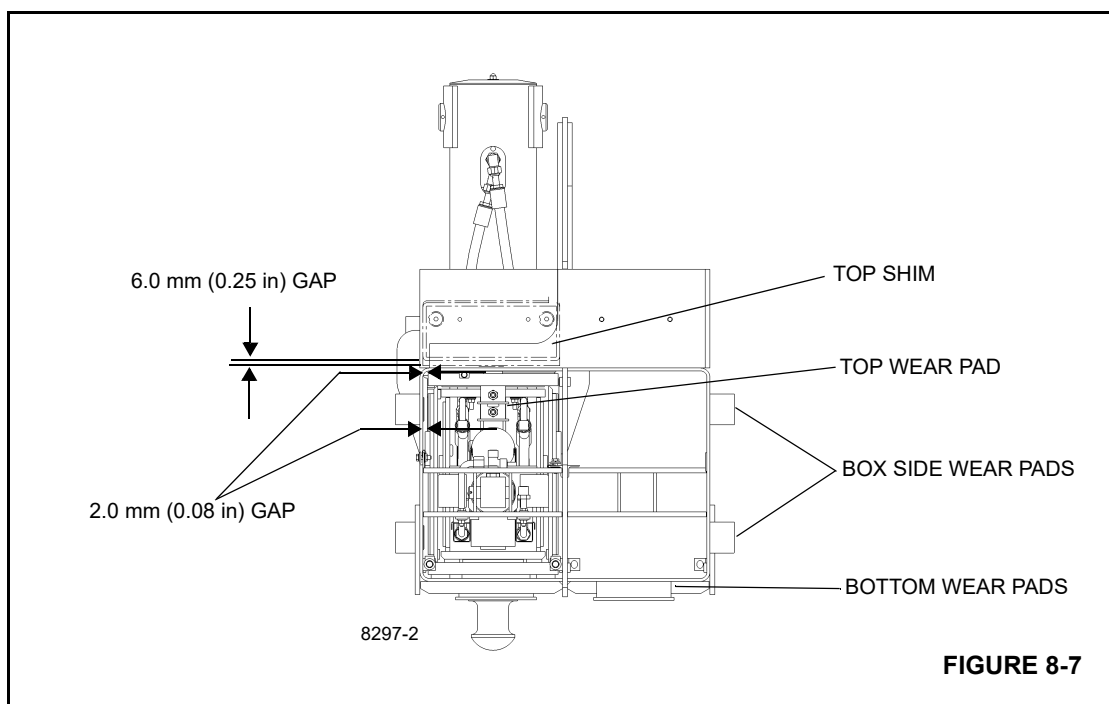

FIGURE 8-7
6. On the side of the outrigger housing, remove the two setscrews from the side adjustable wear pads and back off the wear pads from the housing (Figure 8-7).
NOTE: When adjusting wear pads, refer to (Figure 8-7)
2. Adjust the wedge type wear pad at the upper end of the outrigger until a gap of 2.0 mm (0.08 in) is obtained at the tightest point during full extension (not shown in Figure 8-7).